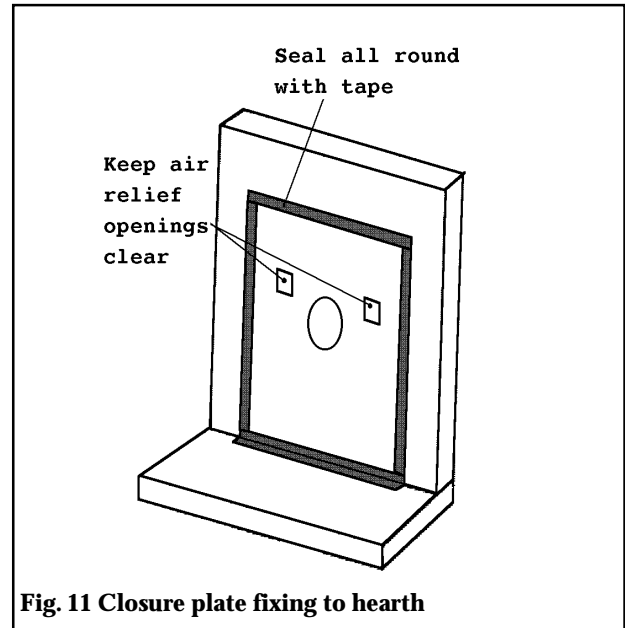

Fig. 11 Closure plate fixing to hearth
3.4.2. Hearth mounting (figure 11)